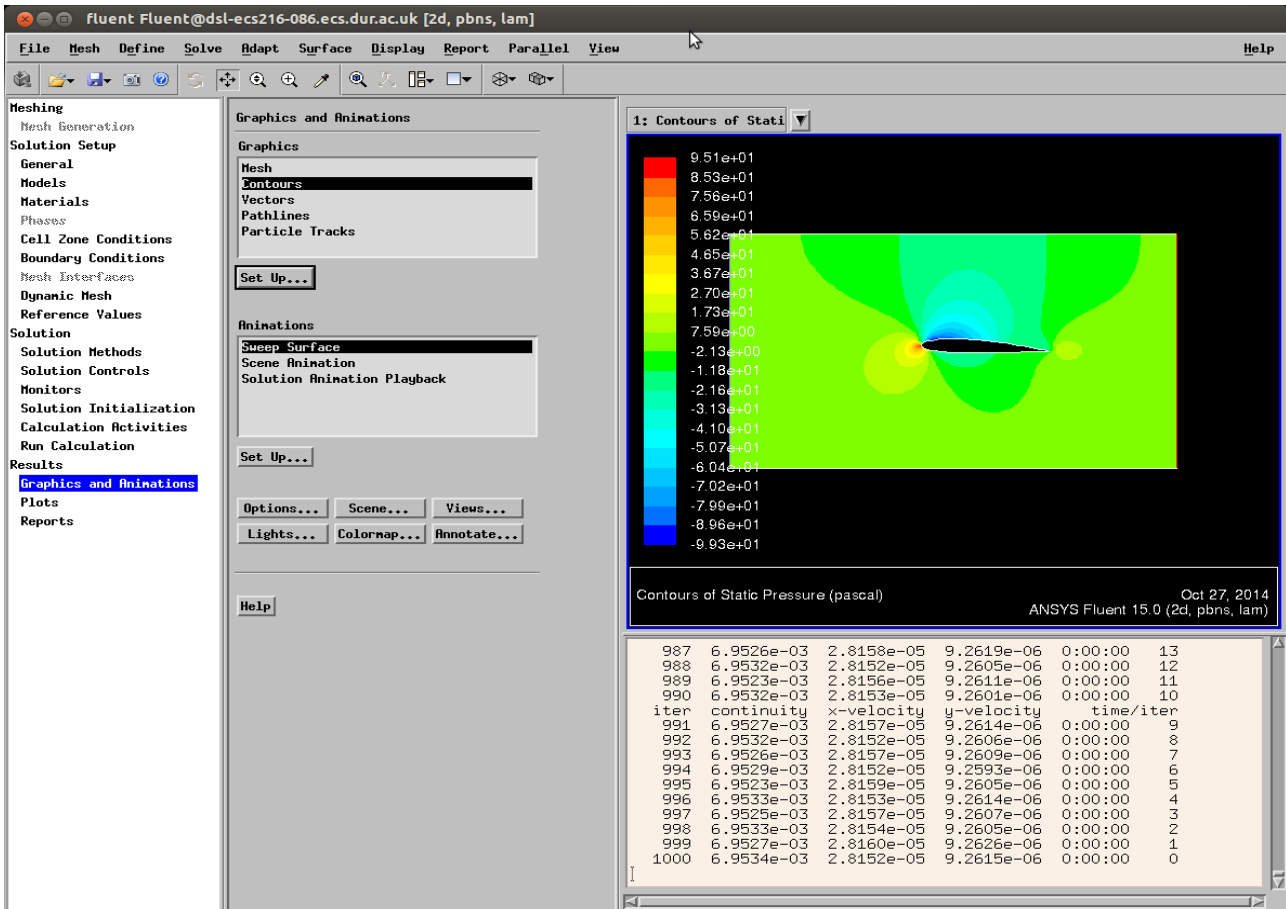

Figure 2: Some Sample Contours of Pressure
- You can then view your results using the “Graphics and Animations” task page. Contours → Set Up.. This might give you something like Figure 2 after some fiddling.